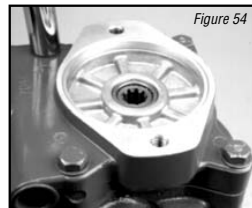

Figure 54
**24** Carefully install the backplate assembly by aligning it with the dowel pins located in the pump housing. Use caution not to dislodge the valve plate (see Figure 54).
**26** With the gerotor assembly installed, install new o-ring into charge pump adapter plate and place adapter onto backplate over gerotor. Retain with cap screws. Torque cap screws to 25 N•m [18.5 lbf•ft] (see Figure 54).